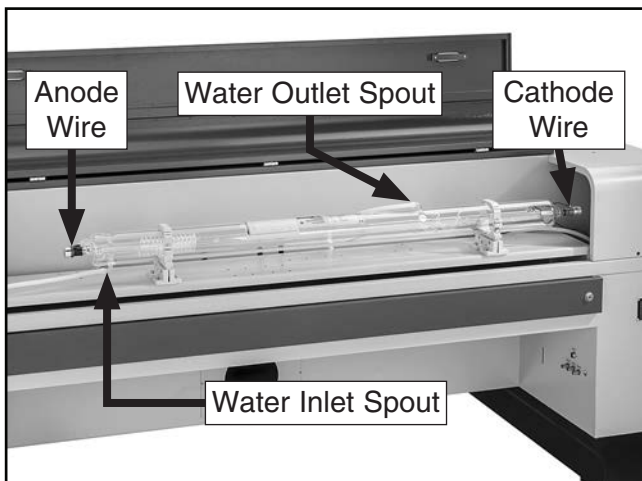

Figure 99. Laser tube water inlet/outlet spouts.
9. Rotate and center laser tube in saddles so inlet spout is pointed down, and outlet spout is pointed up, as shown in **Figure 99**.